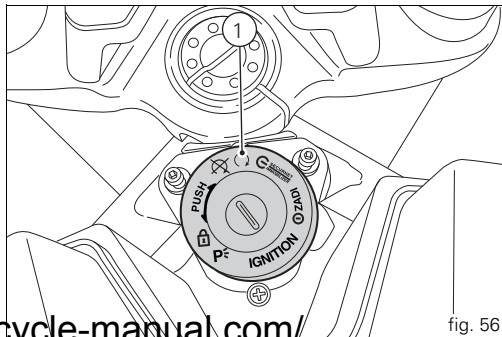

fig. 56
- 1) Move the ignition switch to position (1, fig. 56). Make sure both the green light N and the red light  on the instrument panel come on.